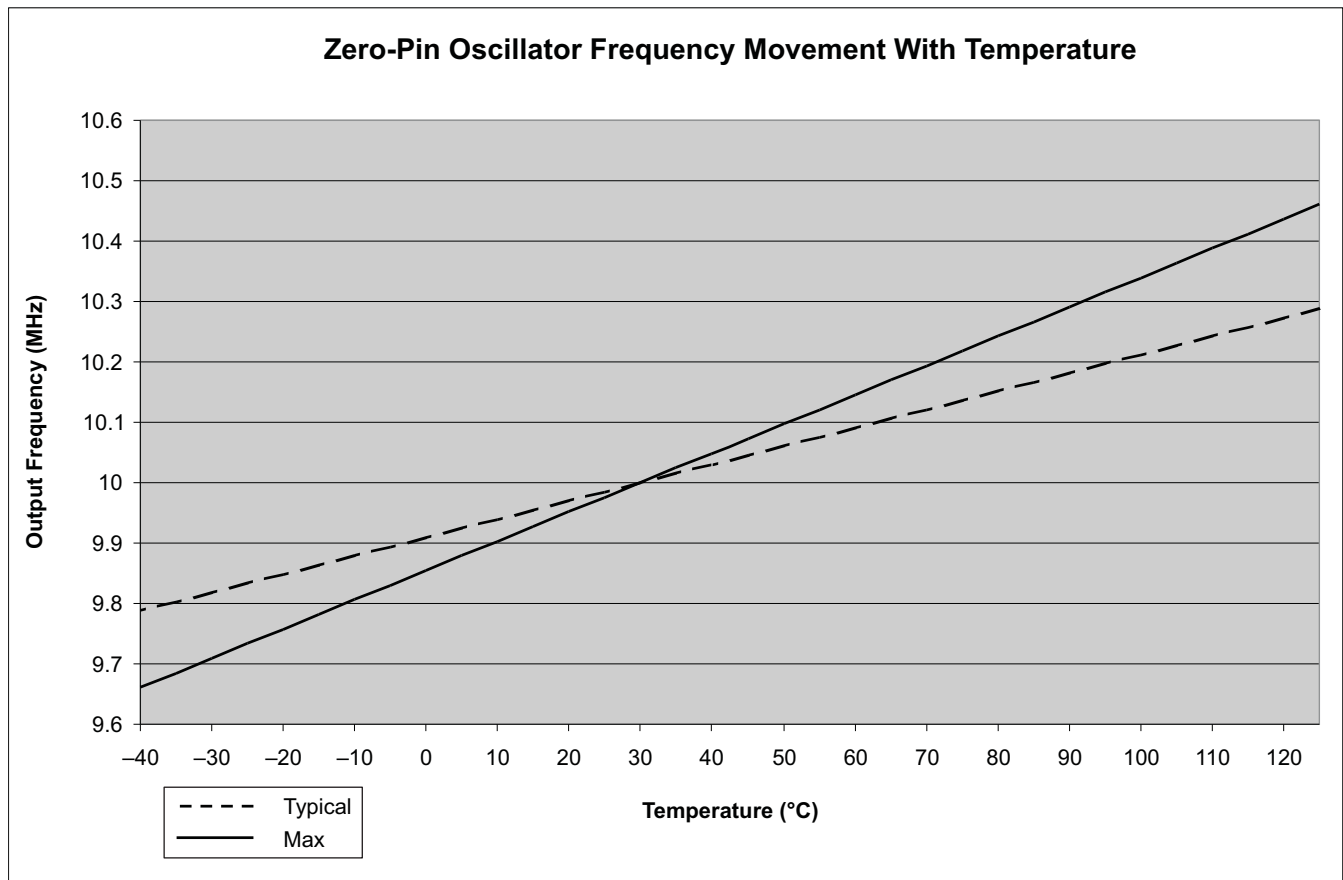

Figure 5-9. Zero-Pin Oscillator Frequency Movement With Temperature
- (1) Oscillator frequency will vary over temperature, see Figure 5-9. To compensate for oscillator temperature drift, see the Oscillator Compensation Guide and C2000Ware.
- (2) Frequency range ensured only when VREG is enabled, $\overline{\text{VREGENZ}} = V_{SS}$.
- (3) Output frequency of the internal oscillators follows the direction of both the temperature gradient and voltage (V_{DD}) gradient. For example: